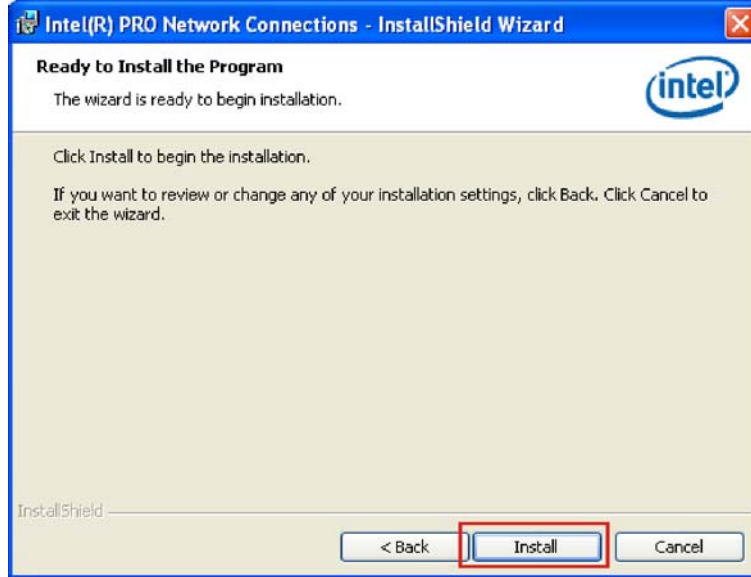

Figure 6-19: LAN Driver Installation Ready Window
Step 10: The drivers are ready to install. Click **INSTALL** to begin the installation process (Figure 6-19).